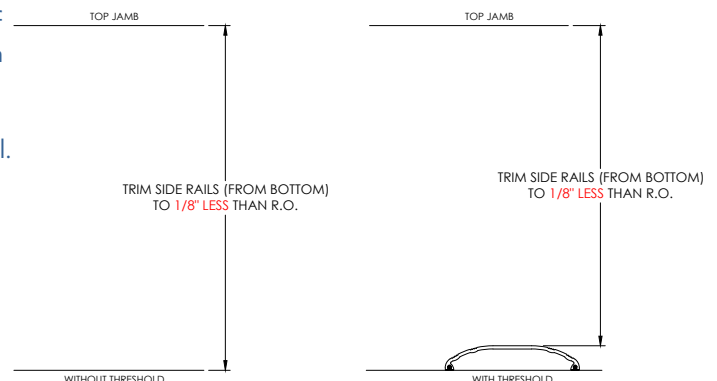

Figure 2
2. Measure the jamb door opening heights at each side (from the top of the threshold if you are using it). Trim the length of each side rail (from the bottom) with a hacksaw or chop saw to the opening size less 1/8" (to allow header to slip in above). **See Fig. 2.**